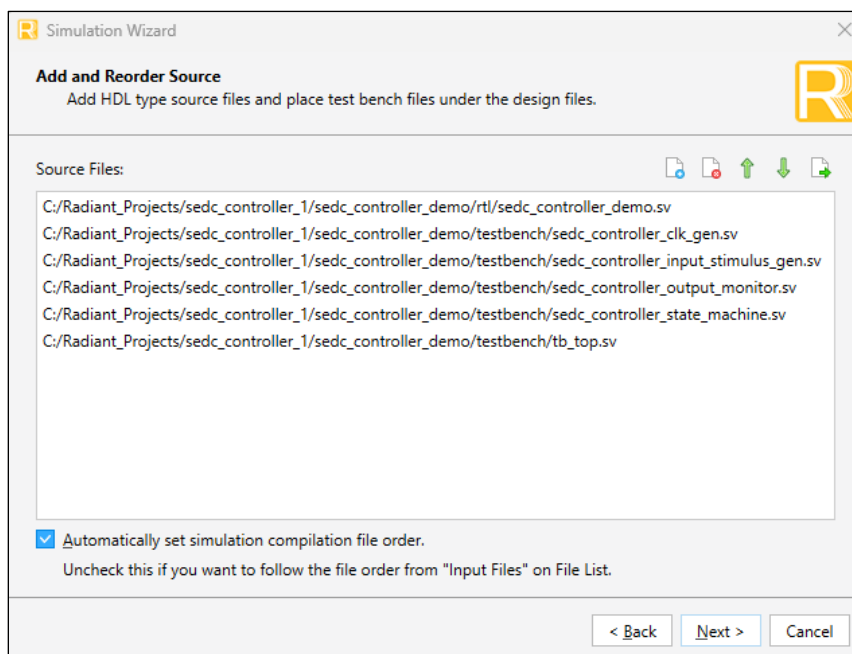

Figure 5.5. Add and Reorder Source
2. Click **Next** to open the **Add and Reorder Source** window as shown in Figure 5.5.